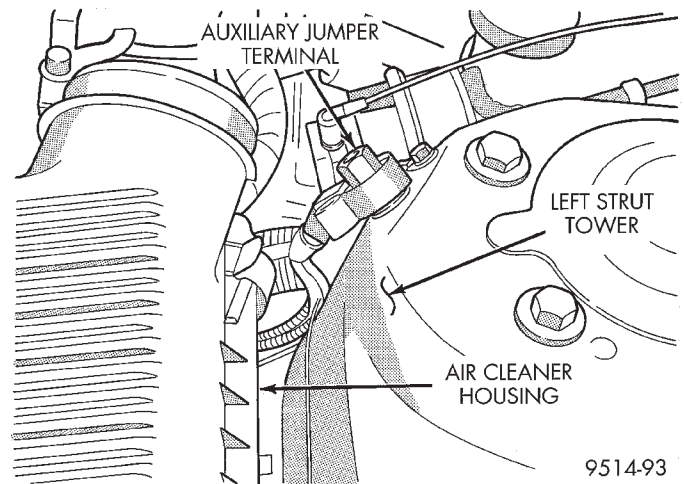

Fig. 29 Auxiliary Jumper Terminal
- (1) Disconnect negative cable from auxiliary jumper terminal (Fig. 29).